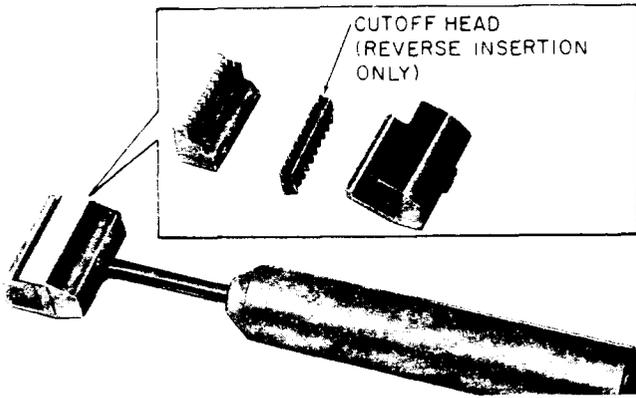

Fig. 9—788J1 Spring-Loaded Impact Tool
2.09 **788J1:** The 788J1 spring-loaded impact tool (Fig. 9) is used to install 88-type connecting blocks and to seat, or seat and trim, up to ten conductors.